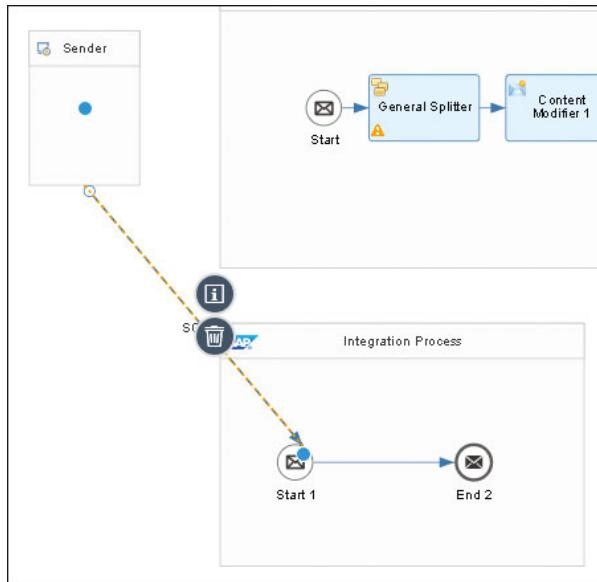

Figure 5.81 Connecting the SOAP Sender Channel to the New Integration Process
3. Select the dotted line representing the message flow from the **Sender** to the first integration process's **Start** event. The line gets orange with small blue dots at the start and the end of the line. Select the blue dot appearing at the **Start** event in the first **Integration Process**, and move it to the **Start** event in the new **Integration Process** (Figure 5.81). Now the existing **SOAP** channel points to the new integration process; you don't have to remodel the channel.